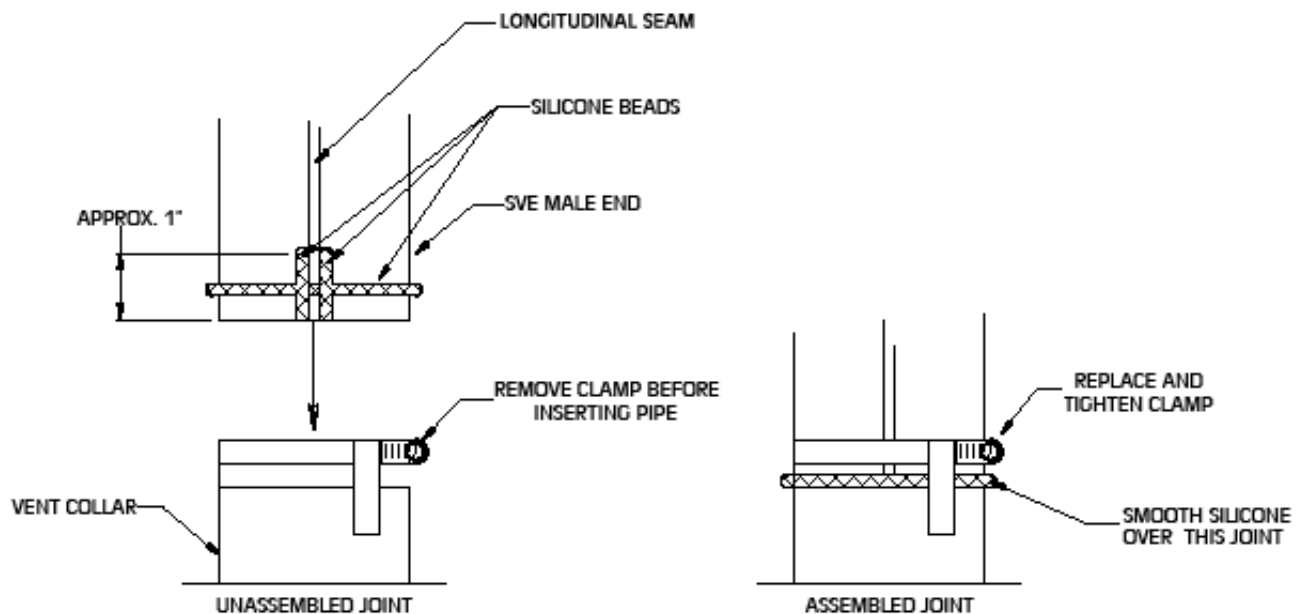

Figure 7.18: Z-Vent III Connection to Vent Collar
- d) On the male end of the pipe, apply a 1/4" wide bead of high temperature silicone approximately 1/2 inch from the male end of the pipe. Apply 1/4" beads of silicone along both sides of the longitudinal seam (Fig. 7.18).